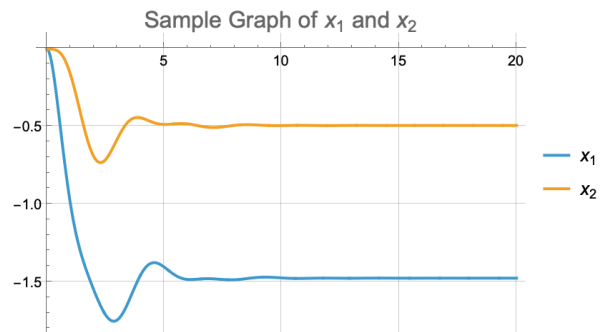

Figure 2
1. Make one set of plots using the values from Table 3. Your graph should look very similar to Figure 2.
2. Choose some values of  $b_1$  and  $b_2$  that show more “bouncy-ness” and look qualitatively different from Figure 2.